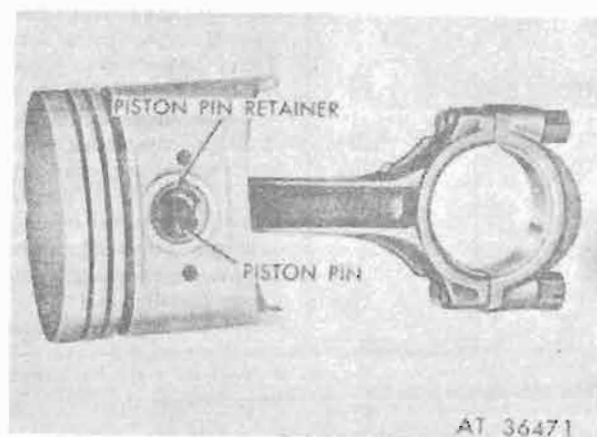

Figure 4-162. Piston pin and retainer.
b. *Remove Piston Pin and Retainers.* Mark the pistons and pins to assure assembly with the same rod and installation in the same cylinder from which they were removed. Remove two piston pin retainers (fig. 4-162), one at each end of piston pin, with suitable pliers; then, push the pin out of the piston and rod. Place piston pins in pistons from